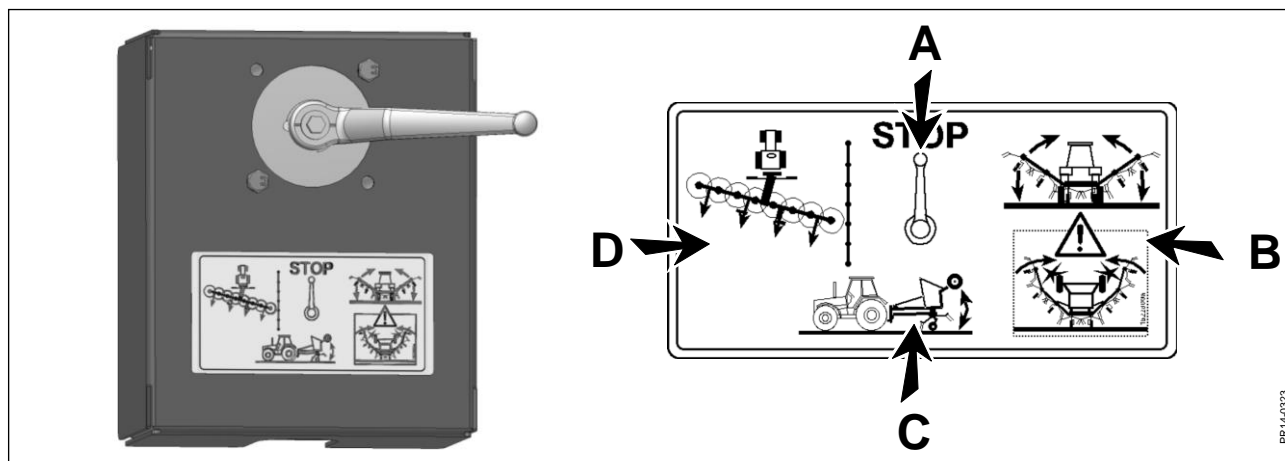

Fig. 3-3
- Fig. 3-3** 3. The handle for the change-over valve is turned to the symbol "chassis frame" (C) and the chassis frame is swivelled to the rear. Now the big wheels are mounted.